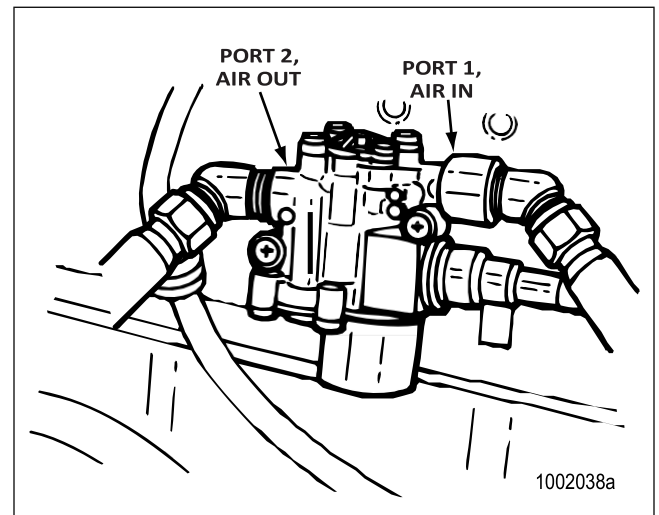

Figure 4.4
5. Disconnect the air lines from Ports 1 (air supply) and 2 (air discharge) of the ABS valve. Figure 4.4.